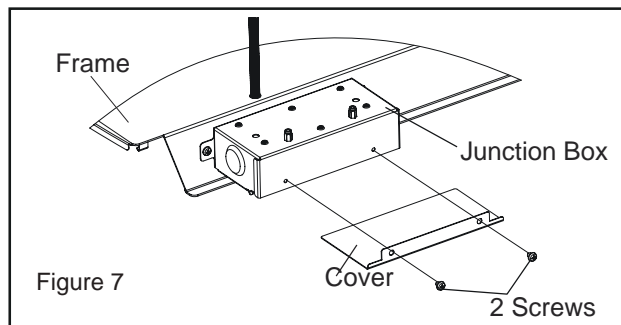

Figure 7
3. Remove the junction box cover (2 screws). Take the power cord and make it get into the box through the strain relief that is provided (see Figure 7).
1. As shown in fig.7, the outdoor unit has two sets of outgoing wires, which are power cord (high current) and the control signal wires respectively. The former one should be directly connected to the power supply terminal while the latter one should be connected to the control signal wire of the indoor unit.